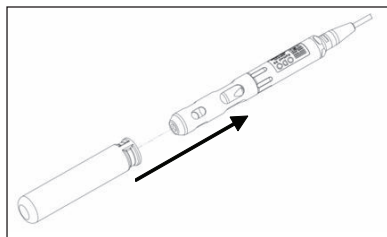

Figure 5
5. Slide the calibration/storage sleeve over the probe guard to keep the probe in a moist atmosphere for storage or calibration (Figure 5). It is important to always keep your sensor in a moist environment so the sensor cap does not dry out. (See Care, Maintenance, and Storage more information.)